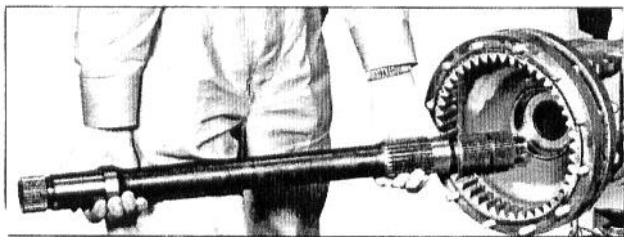
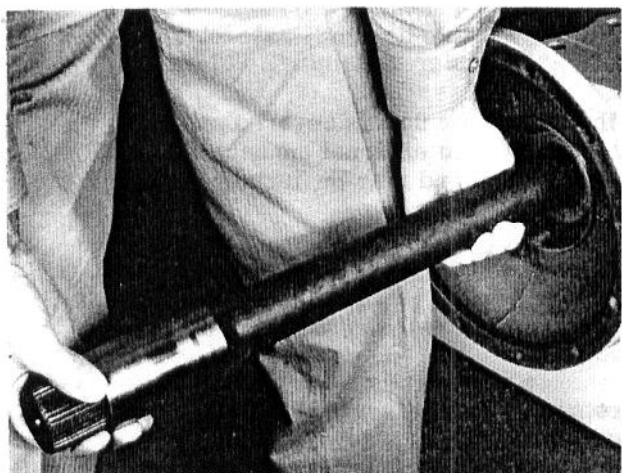

Fig. 1 - Axle Shaft Removal or Installation
Fig. 2 - Axle Shaft Removal or Installation
3. Remove the axle shaft as shown in Fig. 1 or Fig. 2.